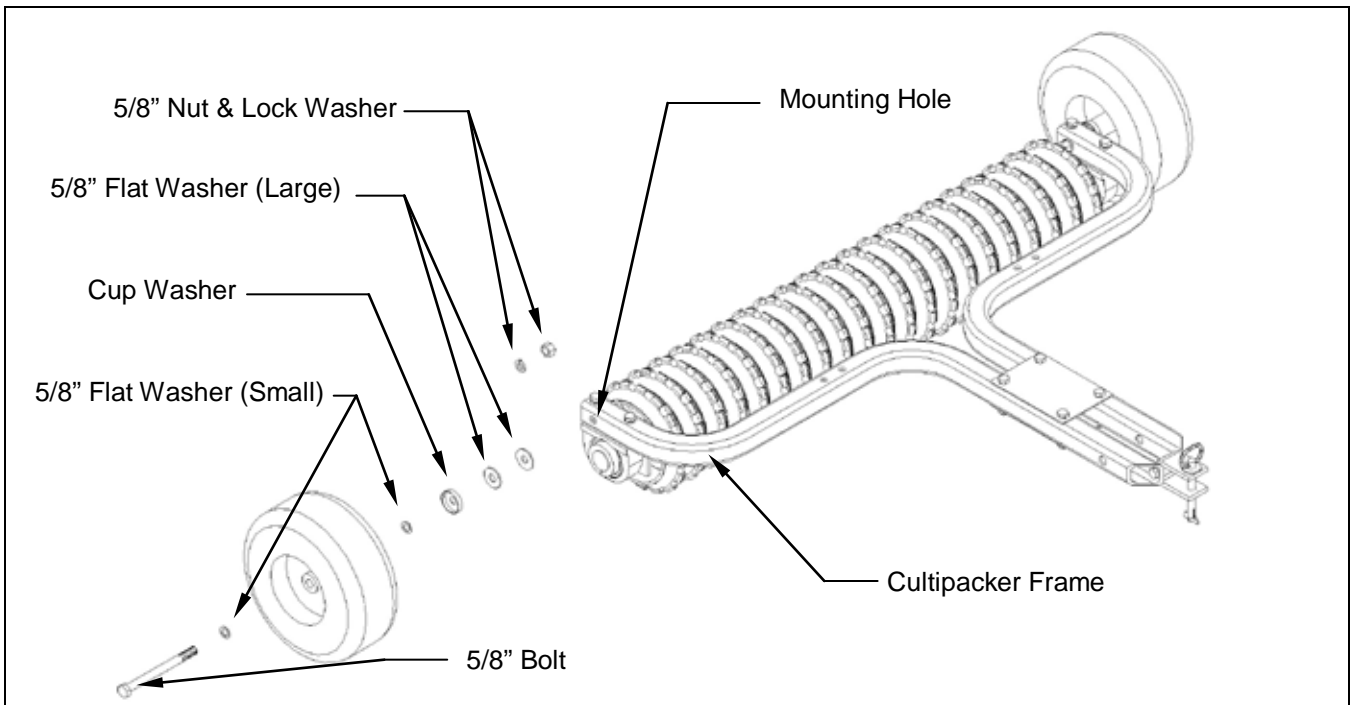

Figure 1. – Wheel Kit Assembly
A. ASSEMBLY OF OPTIONAL WHEEL KIT (See Figure 1)
1. Remove the 5/8" nut and lock washer from each wheel assembly. All other hardware should stay on the wheel assembly in the order that is shown in Figure 1.